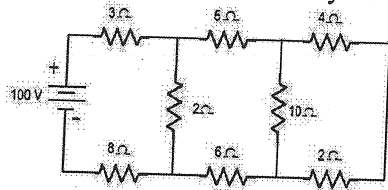

Fig.5
3. Find current through all the branches of the network shown in fig5.below.